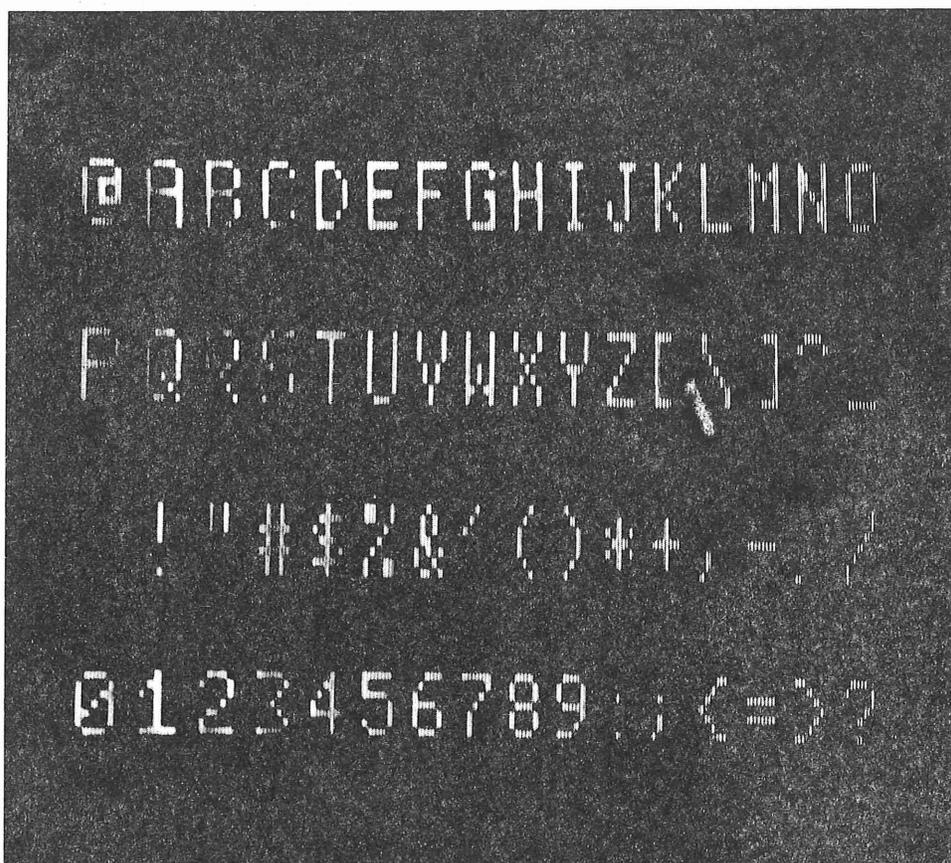

Figure 1-2. ComSet Terminal Display Repertoire
1.06 Figure 1-2 shows the entire display repertoire of 64 ASCII alphanumeric and punctuation characters.